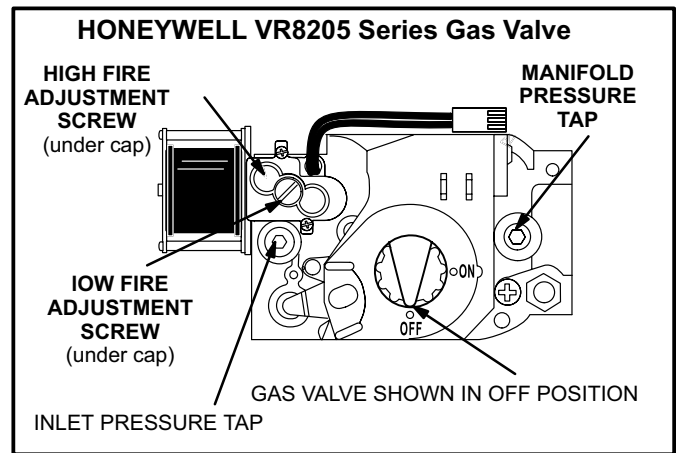

FIGURE 18
*Honeywell VR8205 Gas Valve* - Turn knob on gas valve clockwise  to **OFF**. Do not force. See figure 18.
*Honeywell VR8205 Gas Valve* - Turn knob on gas valve counterclockwise  to **ON**. Do not force. See figure 18.